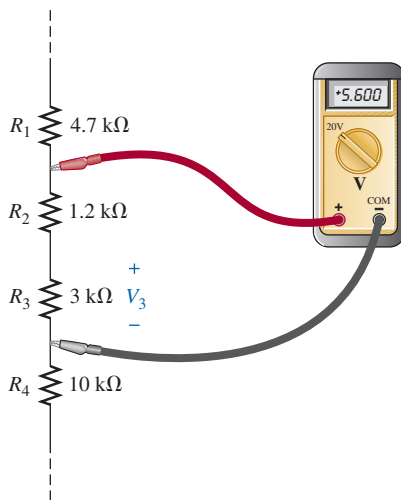

FIG. 5.39
**EXAMPLE 5.18** Given the voltmeter reading in Fig. 5.39, find voltage  $V_3$ .